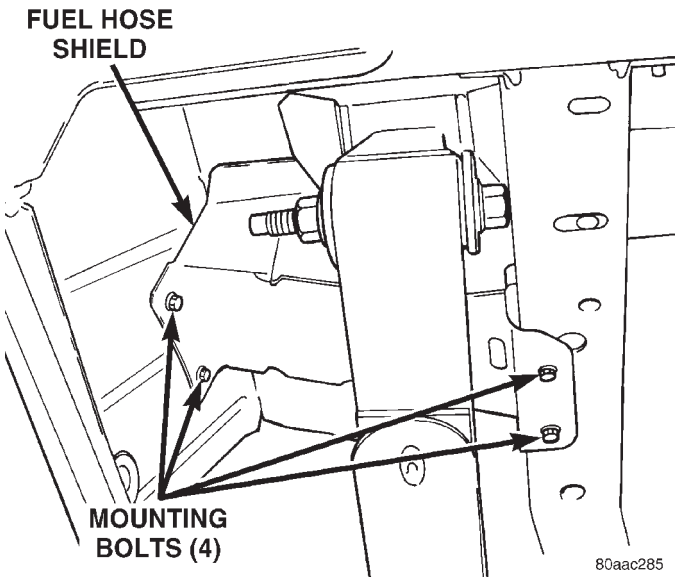

Fig. 33 Fuel Hose Shield
- (4) If Equipped: Remove fuel tank skid plate. Refer to Group 23, Body for procedures.
- (5) Remove 4 fuel hose shield mounting bolts and remove fuel hose shield (Fig. 33) from body.